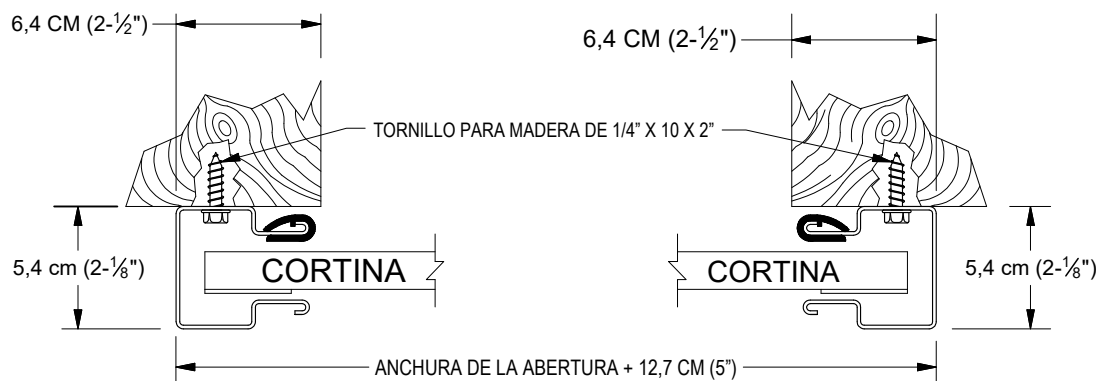

FIGURA 10: JAMBAS DE MADERA
- ▶ **JAMBAS DE MADERA:** TORNILLO PARA MADERA DE $\frac{1}{4}$ " X 10 X 2". VEA LA PÁGINA 9 FIGURA 10.